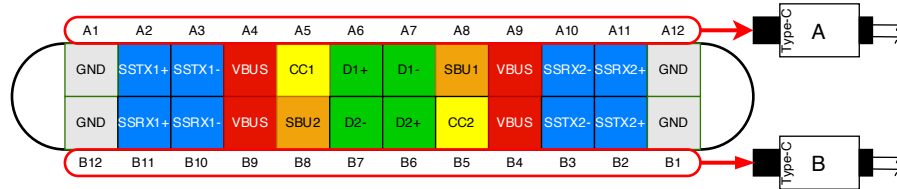

Figure 4: USB-C Connector Detail
- Figure 4 illustrates which CC line is used for Power Delivery negotiation in subsequent application notes and diagrams that specify orientation. For example, diagrams showing connectors with “A” use CC1 for PD communication.